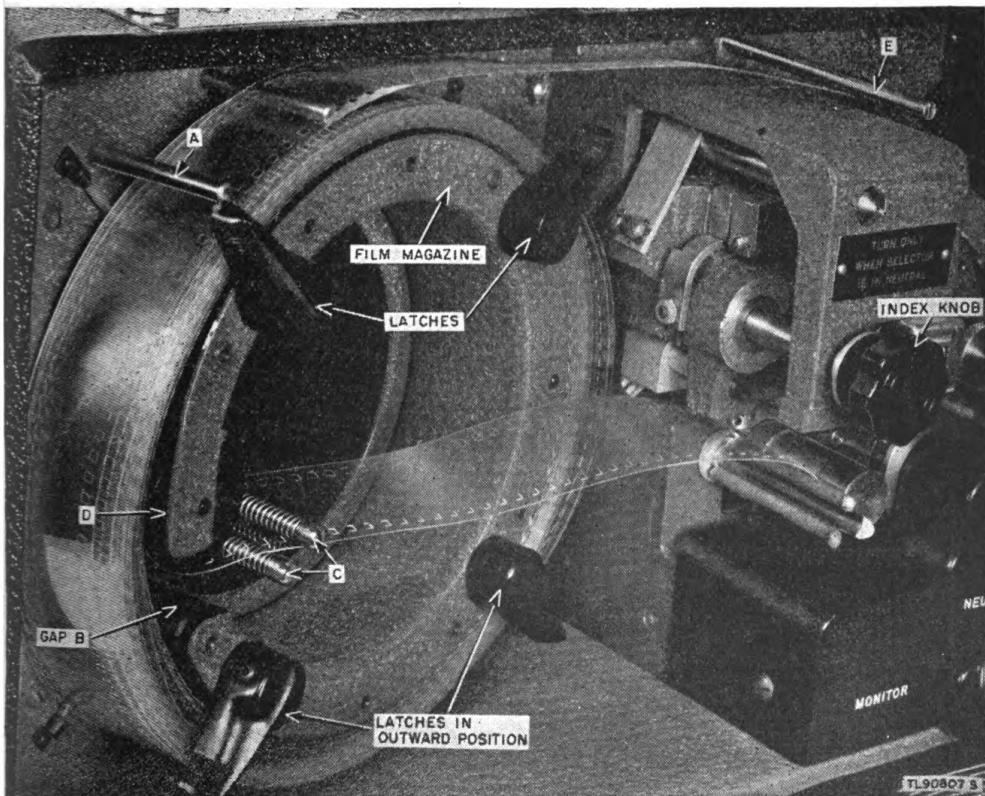
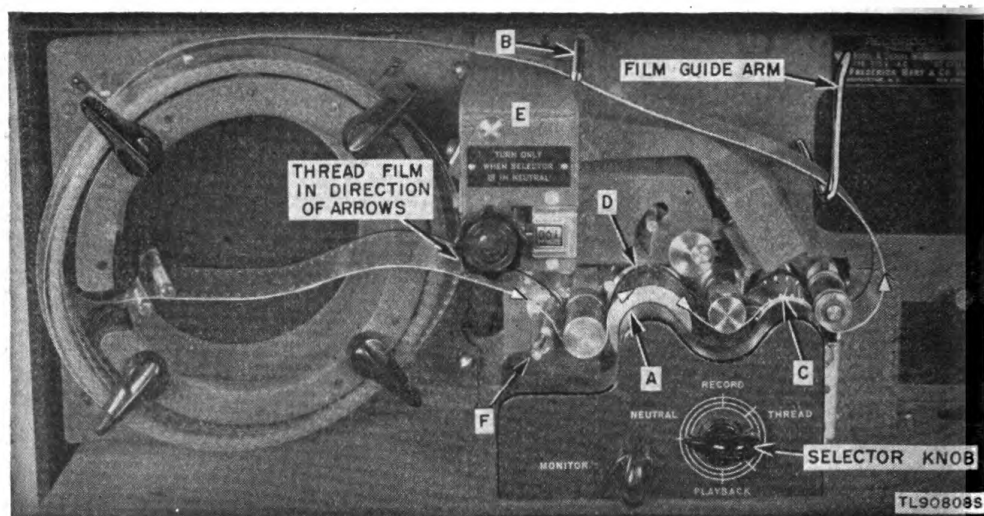

Figure 11. Close-up of film magazine and carriage bracket.
Figure 12. Threading the film.
a. Set index knob (fig. 11) to track No. 1 to facilitate loading or removal of film. Track No. 1 appears as 001 on the track indicator.
(1) If the film roll is equipped with a gate, make sure the eyelet on the gate is placed over the lower post ((A) fig. 11), as the film is placed over the small magazine rollers. Place the inside loop of the film under the large roller (D) and through the gap in the magazine (B). Follow through the coil spring rollers (C) (static eliminator).
(2) Holding the film on the magazine with one hand, snap the film latches back to their original position. Straighten the film on the rollers.
(3) If straight film is used, hold the inside loop of film with the left hand, and with the right hand pull the outside loop at the top of the magazine until enough film is extended for purposes of threading. Place the top loop over or under the carriage bracket film guide pin (E) and then through the bend of the film guide arm. (See fig. 12.) See paragraph 11 for threading instructions.
With the recording film in place on the film magazine and sufficient film length extending over the carriage mechanism (E) to permit threading, proceed as follows (fig. 12):
*b.* Holding the film with the left hand at a point about 1 inch to the left of the film wiper (F), proceed to thread with the right hand following the arrow path shown in figure 12. Follow the procedure carefully.
c. The outside of the recording-drum-spring flange (A) is spring-controlled and must be pulled out slightly to permit the film to lie flat upon the drum (D).
d. Thread reverse film in like manner. Be sure to place the film *under* the carriage bracket film guide pin (B).
**Caution:** Be certain that the sprocket holes on the film are matched with the sprocket teeth (C). Also check the seating of the film on the recording drum (D).